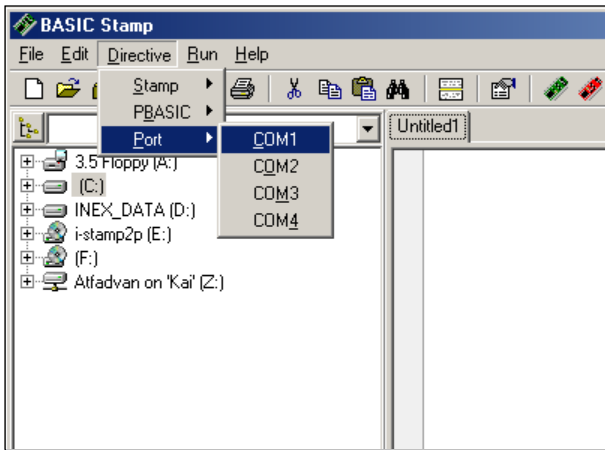

Figure 5 : Show serial port directive selection.
4.3 Go to **Directive** menu again. Define the serial port directive for select the serial port that connect with BASIC Stamp (Figure 5).